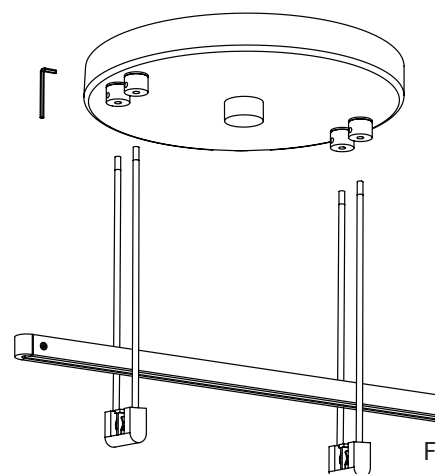

Fig. 3
1. Install the Double Rod Power Feed Hanger onto the Power Bar the same way as the Parallel Power Bar Hanger (page 34): press down firmly on the top of the Power Bar, while pressing up on the bottom of the Hanger, until the Power Bar clicks into place. (Fig. 3)